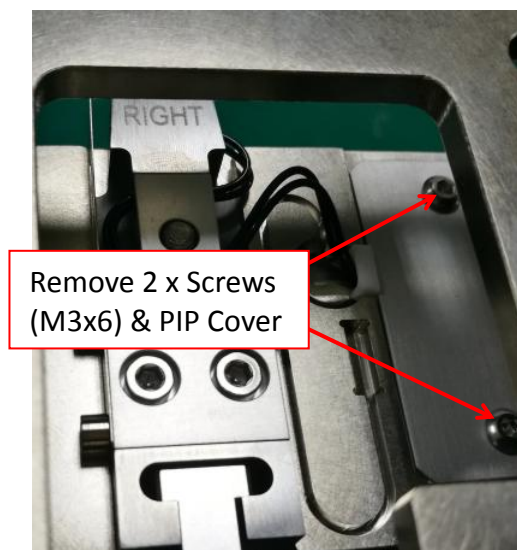

Figure 26 PIP Cover Removal
5. Remove 2 x Screws (M3 x 6) & PIP Cover as shown in Figure 26